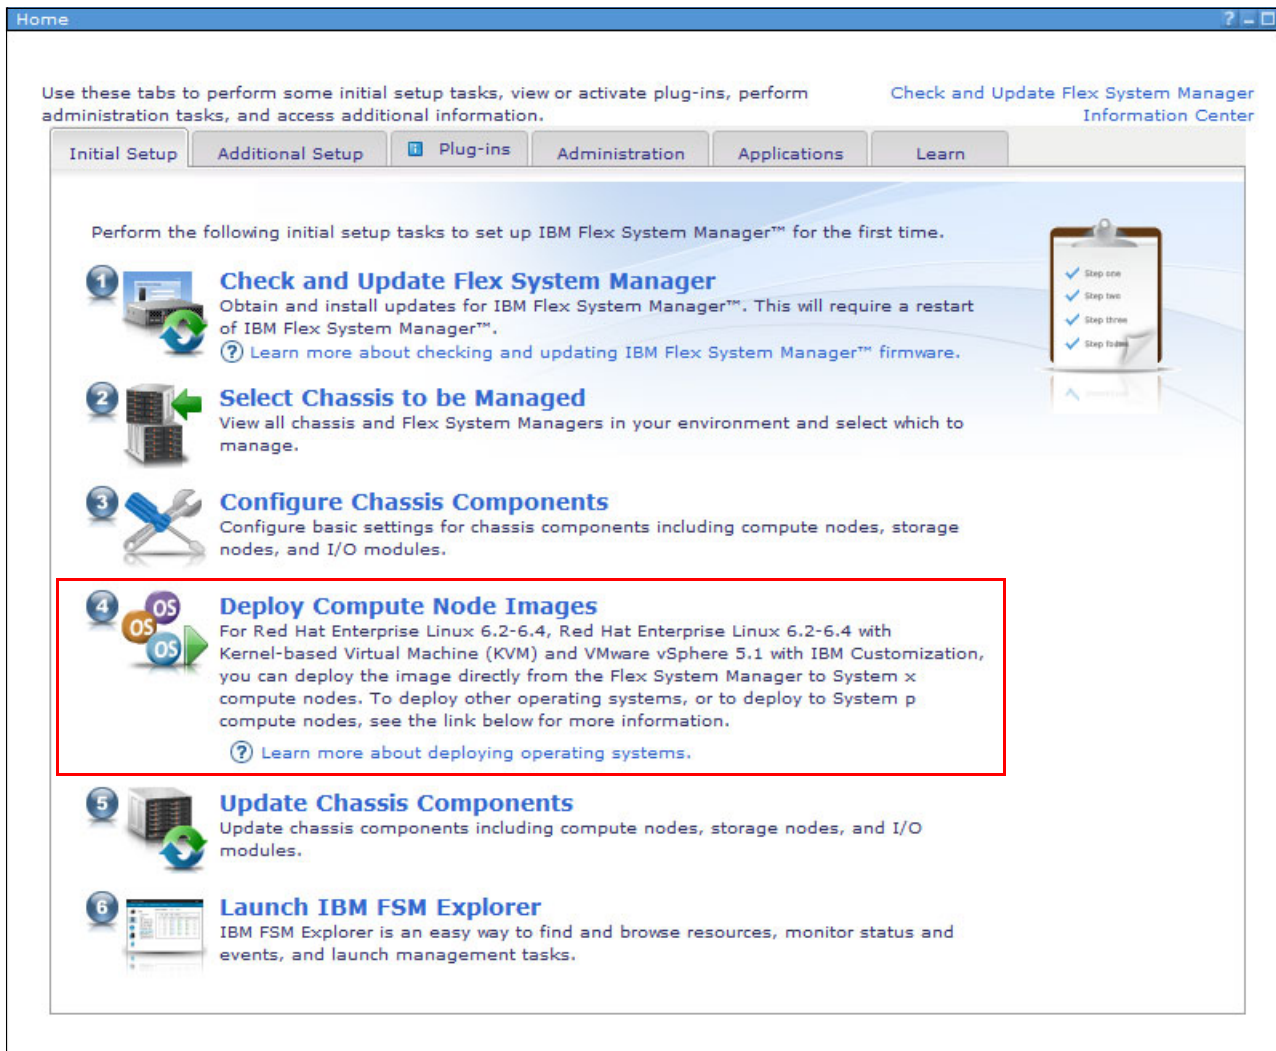

Figure 6-57 FSM Initial Setup: Deploy Compute Node Images
- ▶ On the Initial Setup tab, click **Deploy Compute Node Images**, as shown in Figure 6-57.